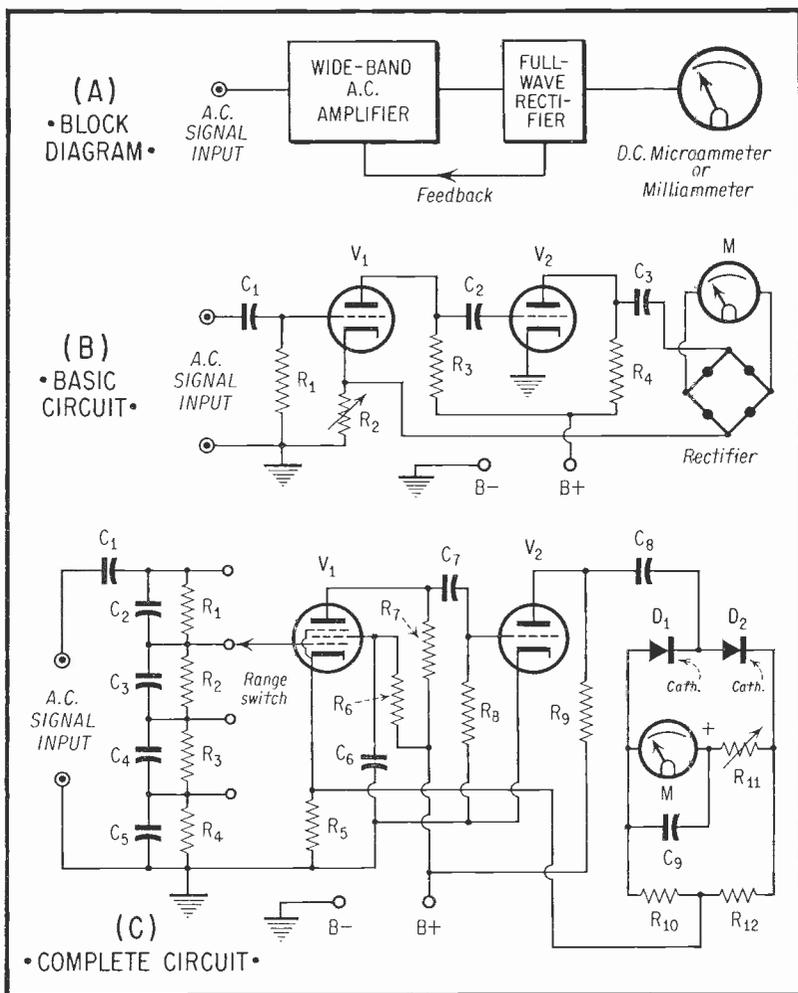

Fig. 3. Amplifier-Rectifier V. T. Voltmeter.
Another important v. t. voltmeter arrangement is the amplifier-rectifier circuit. This instrument, which is illustrated by Figure 3, is used principally for the measurement of small
Referring to Figure 3 (A), a small a. c. signal voltage is stepped-up by the input amplifier which is a wide-band channel with sufficient output capability to drive a full-wave rectifier and d. c. indicating milliammeter or microammeter. This arrangement thus makes possible the measurement of small voltages in the millivolt region by first amplifying the latter to the level required to operate the rectifier-type meter. Stability; freedom from tube, component, and power supply variations; and linearization of response are secured by means of negative feedback from the meter circuit to the input circuit of the amplifier. Deflection of the meter is proportional to the average value of the applied a. c. signal voltage.
Figure 3 (B) shows the basic circuit employed in several commercial amplifier-rectifier instruments. Tube V_1 is a high-gain voltage amplifier, while V_2 essentially is a current amplifier. The output of V_2 is coupled through a large capacitance, C_3 , to a full-wave bridge rectifier which actuates milliammeter M . The greater amount of signal gain must be provided by V_1 . The frequency response of the circuit also will be dependent upon the characteristics of the input amplifier stage. Degenerative voltage, derived from the meter rectifier circuit, is applied across
Figure 3 (C) shows a typical complete 2-tube circuit. Resistors R_1 to R_4 form an input voltage divider for switching the instrument ranges. Each resistor in the string is shunted by a trimmer capacitor (C_2 to C_5) employed for frequency compensation. The first tube, V_1 , is a high-gain pentode voltage amplifier. The second tube, V_2 , is a high- μ triode current amplifier. The meter rectifier is a full-wave half-bridge comprised of germanium diodes D_1 and D_2 and resistors R_{10} and R_{12} . The meter series rheostat, R_{11} , serves as a calibration control. Degenerative feedback voltage is applied from the meter circuit across cathode resistor R_6 which usually is of the order of 10 to 20 ohms.